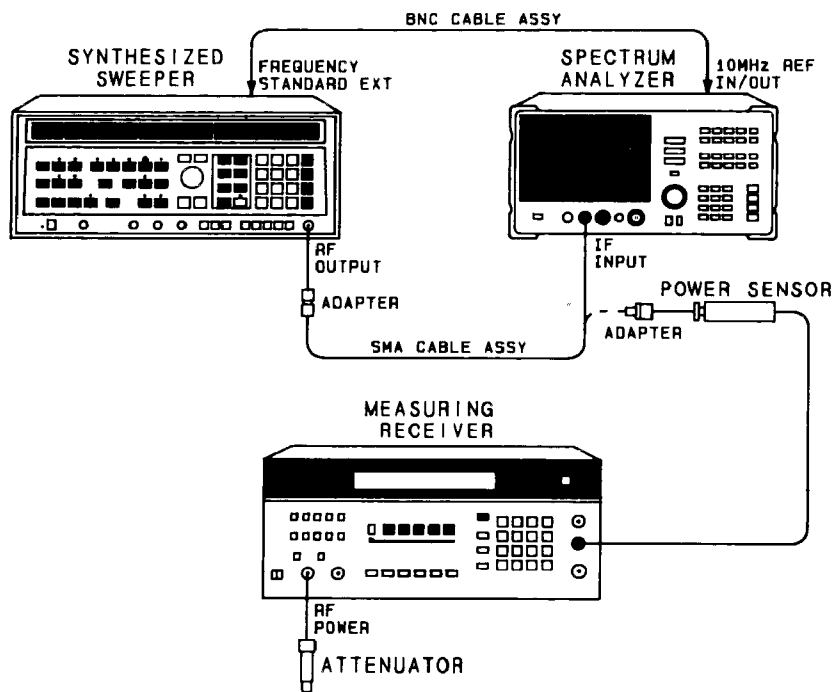

Figure 3-23. IF Input Amplitude Test Setup
1. Connect the equipment as shown in Figure 3-23. The HP 8562A/B Spectrum Analyzer provides the frequency reference for the HP 8340A.